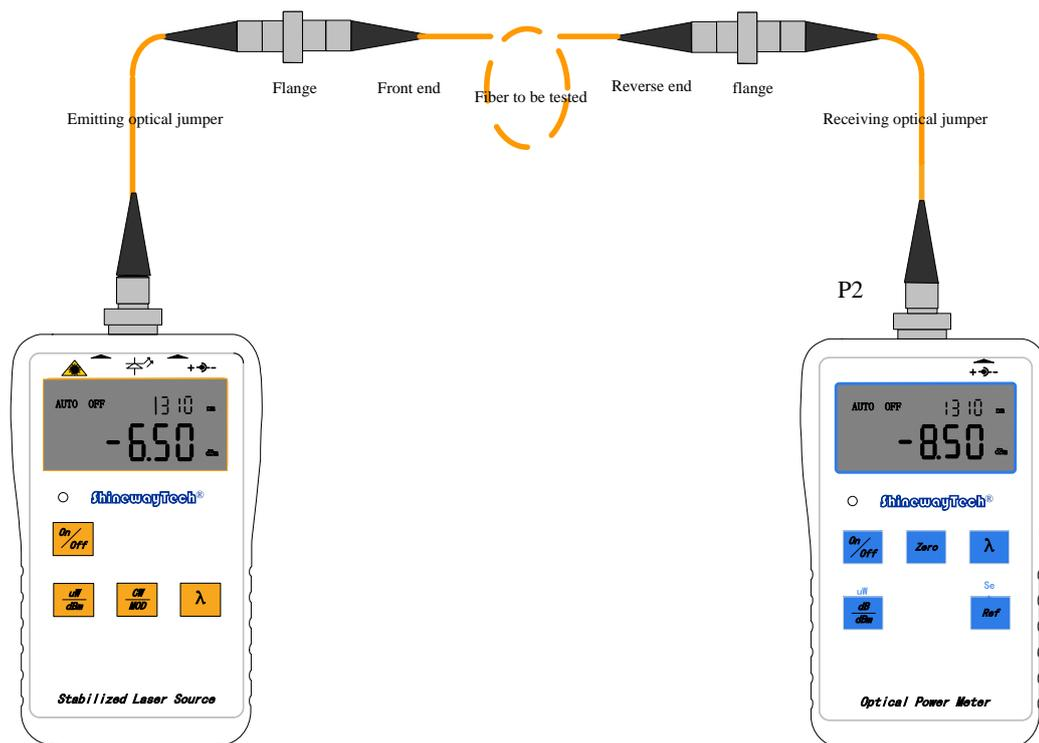

FIGURE21. FORWARD LOSS TESTING
2. Connect laser sources and optical power meters to their respective patch panel ports using the test jumpers, as shown in Figure21.